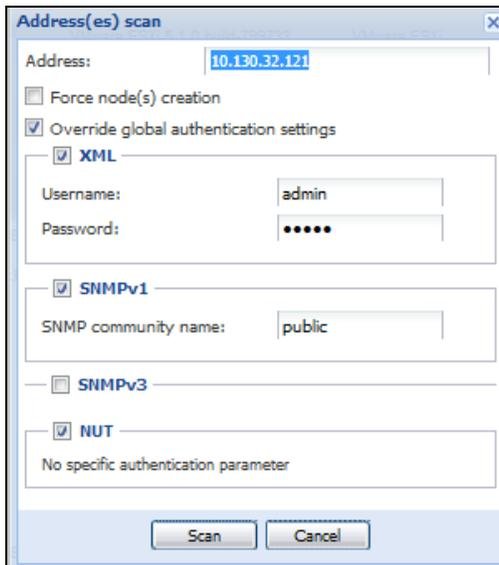

Figure 10. Address(es) Scan Dialog Box (Example 1)
- You can also check (select) the Override global authentication settings checkbox to specify authentication parameters that are different from global scan settings (see Figure 10).